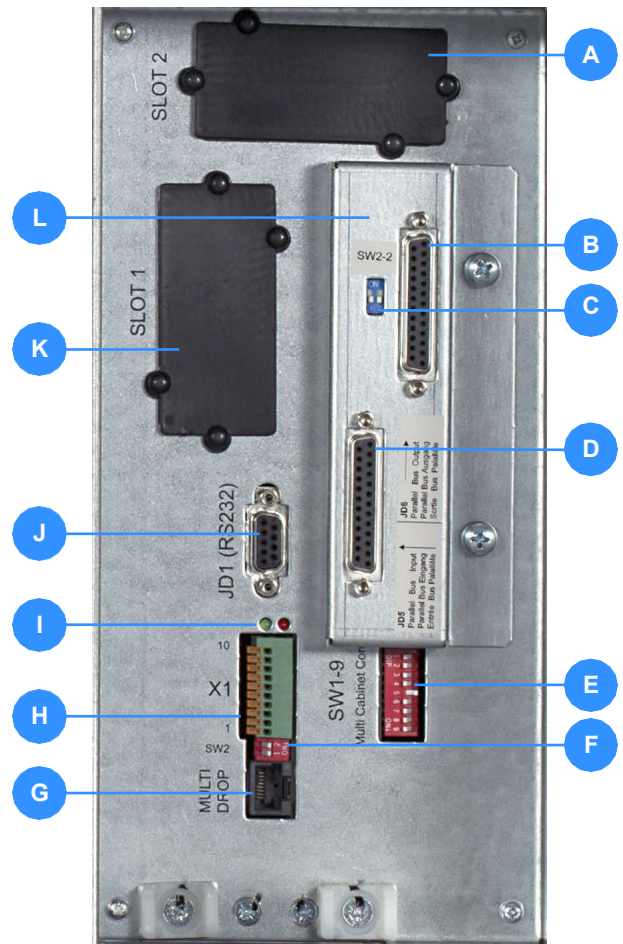

Figure 2.11 Communication interface facilities
Figure 2.11 shows a photograph of the Communication Interface Board with the Parallel Adapter Board (L) fitted. A detailed explanation of the interface facilities is provided in the Options chapter of this manual.